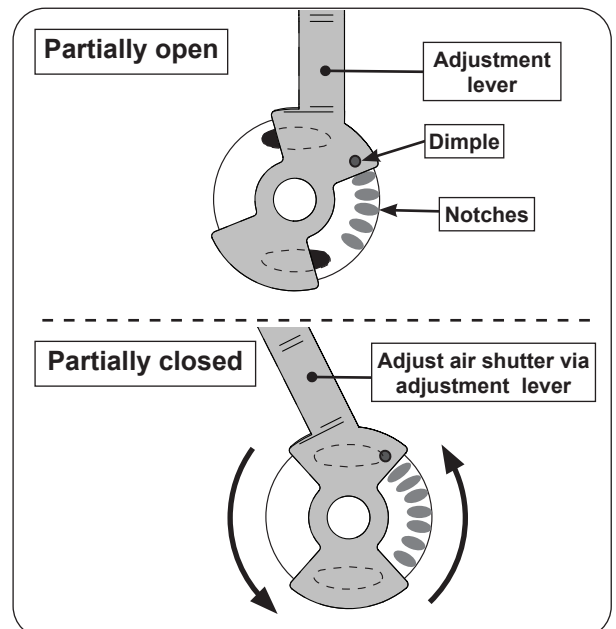

Fig. 40-2 Main burner air shutter adjustment
Main burner air shutter adjustment levers are easily accessed by removing the top panel (when cool). See the TOP PANEL REMOVAL section for details. The air shutters are controlled by the adjustment levers at the front of the burners (see PARTS LIST and Fig. 40-2). Each air shutter has a small dimple that allows it to lock into notches in the burner face. This prevents the air shutter from moving. See Fig. 40-2.
3. Begin closing the air shutters **with the adjustment levers** until the flames appear to burn while touching the burner ports (Fig. 40-2). The air shutters have a small dimple that allows it to lock into notches in the burner face. This prevents the air shutters from moving.